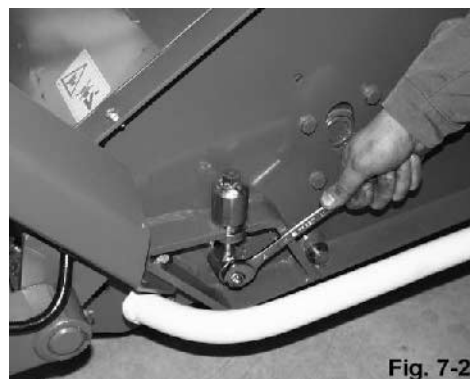

Fig. 7-2
4. Loosen the clamping screw (Fig. 7-2),